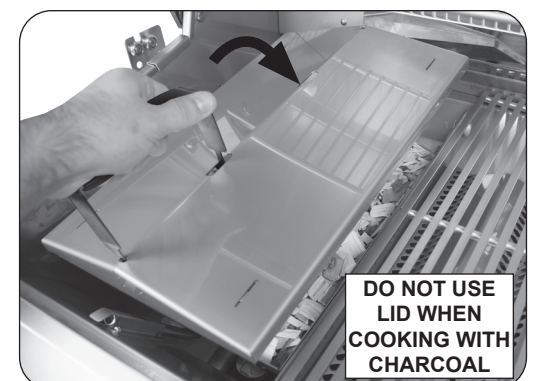

Fig. 37-5 Install lid for smoking
2. Using the grid/lid lifter, install the smoker lid (see Fig. 37-5).